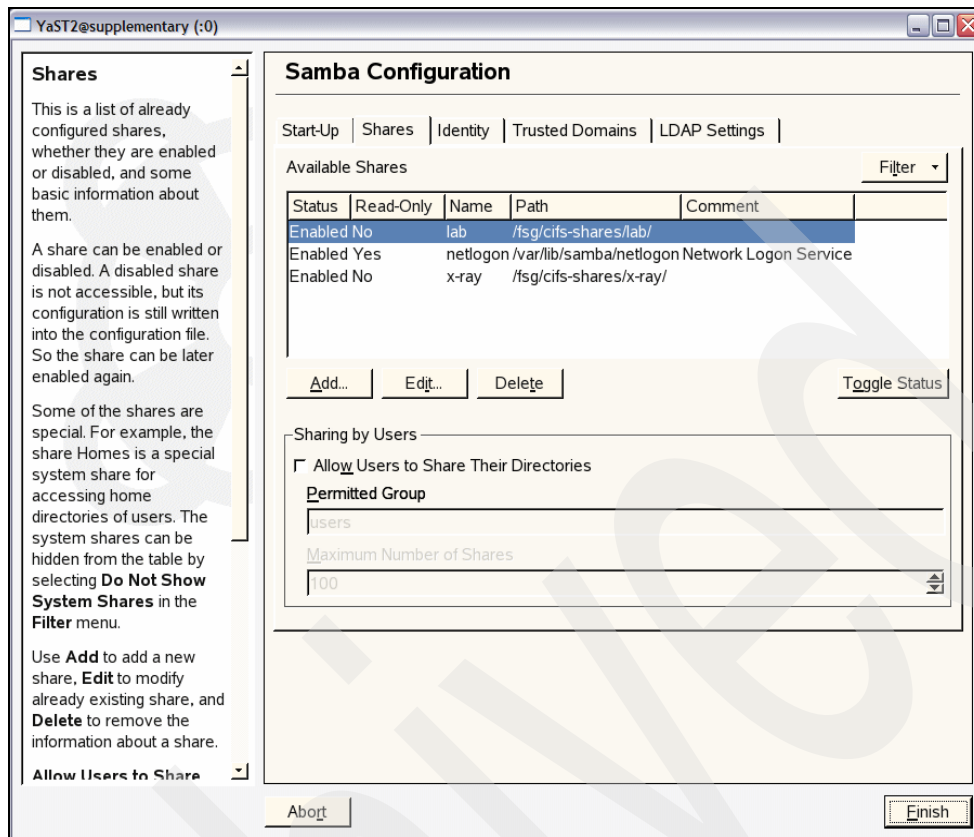

Figure 6-14 Samba Configuration Shares tab
3. On the Shares tab, you will see a list of already configured shares (if any). See Figure 6-14 on page 255.